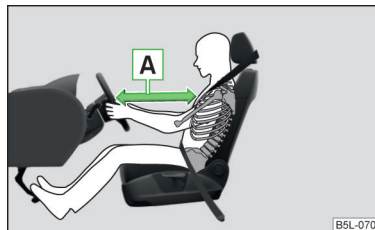

Fig. 11
- It is important for the driver and front passenger to maintain a minimum distance of 25 cm from the steering wheel or the control panel » **fig. 11** - **A**. If you do not observe this distance, the airbag cannot protect you - risk to life! The front seats and the head restraints must always be correctly adjusted to match the body size of the occupant.